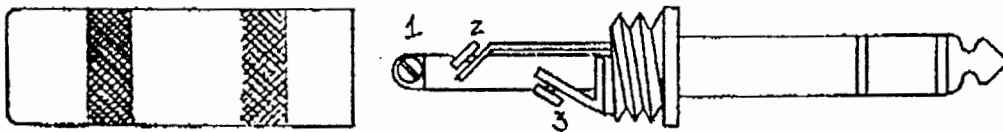

FIGURE 6
Disconnect power cord from wall receptacle. Remove the stereo jack "plug", which was discussed in the power base section of "assembly", from the rear side of the right power base. Unscrew the case, (see figure 6) and remove the "jumper wire" which connects terminals #2 and #3. Insert the three conductor wire from the puretan remote monitor into the hole in the rear of the stereo plug casing and pull through. A three lead, eighteen (18) to twenty four (24) guage should be used. The most common application is thermostat wire as less than one half (1/2) amp is applied. Attach the wires to the applicable terminals as illustrated in figures 7 and 8 depending upon the remote monitor you are using. Be certain that the small terminal screws are tight, and screw the case onto the plug.